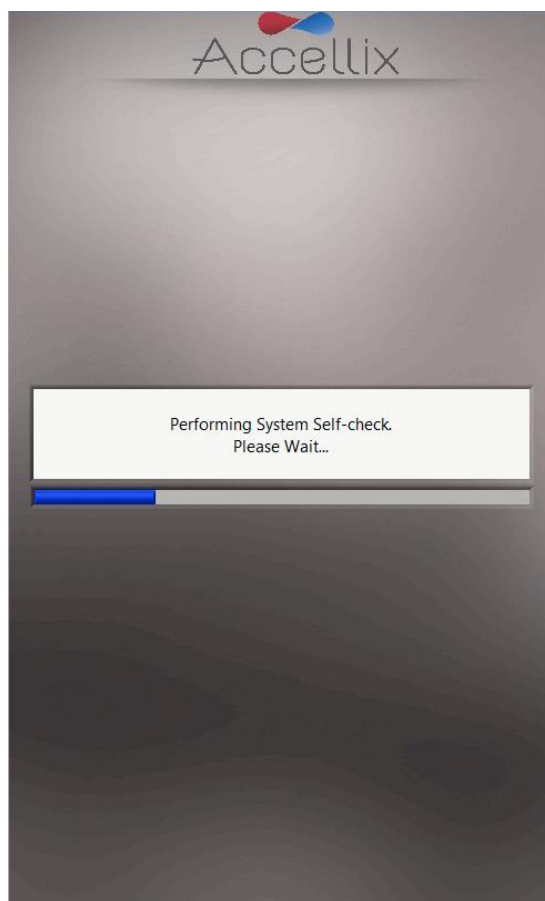

Figure 14: 'System Self-check' screen
1. Turn on the instrument by switching the **Power switch** on the rear panel of the instrument to the 'ON' position. While the instrument boots up, the display will inform the user that **System Self-check** is being performed (Figure 14):